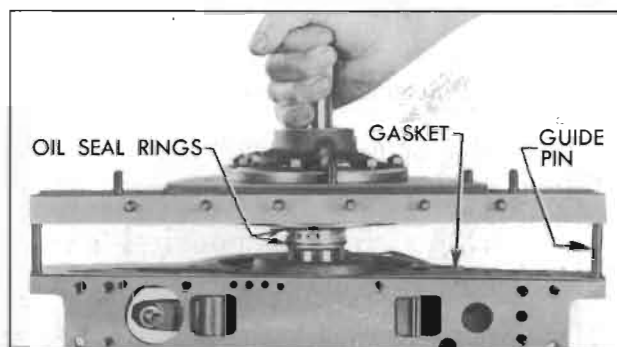

Figure 4-140—Installing Reaction Shaft Flange and Gasket
1. Install a 5/16" guide pin (fig. 4-129) in accumulator bolt hole at each end of flange on transmission case. See figure 4-140.
3. Make certain that oil seal rings are on flange hub, then install flange assembly on case using care to avoid damaging oil seal rings. See figure 4-140.